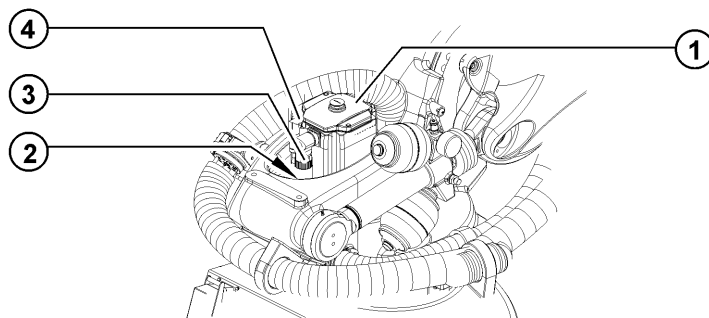

Fig. 11-1: Removing motor A1
1. Release and unplug connectors XM1 and XP1 at the sockets (>>> Fig. 11-1).